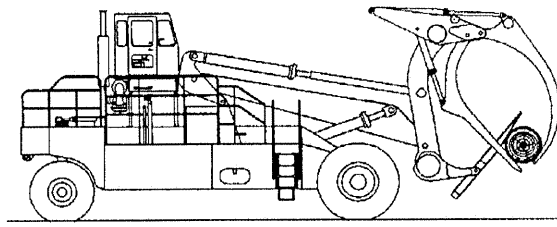

Fig 4-11
- Fig. 4-11 shows a good example of the Lumberjack's flexibility. The log is under the tines and is held by the hold-down and kickoff arms. Partial loads should be held with the holddown and the kickoff arms.